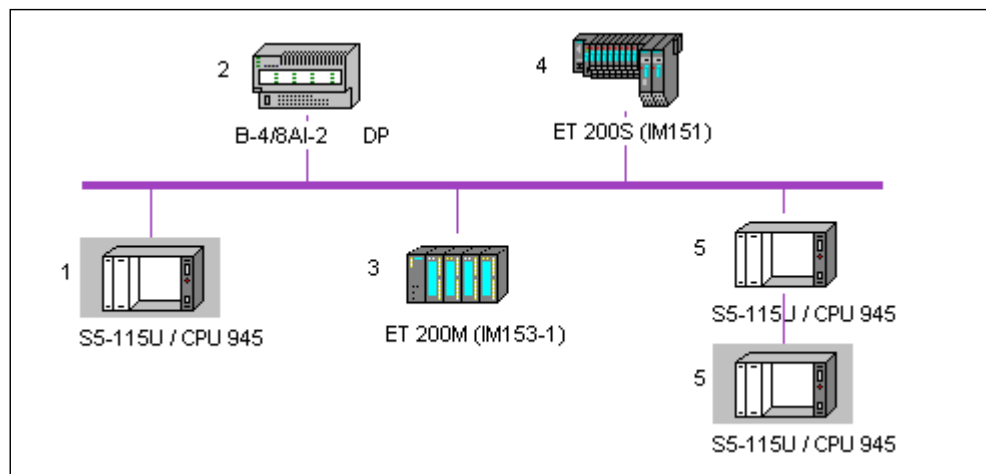

Figure 4-2 Structure of a sample DP configuration
Result: The bus configuration is created with icons for all the modules (Figure 4-2)
1. Double-click the IM 308-C "S5-115U / CPU 945" icon in the window for the graphical bus configuration (see Figure 4-2).
- Double-click the "B-4/8AI-2 DP" icon in the window for the graphical bus configuration (see Figure 4-2).